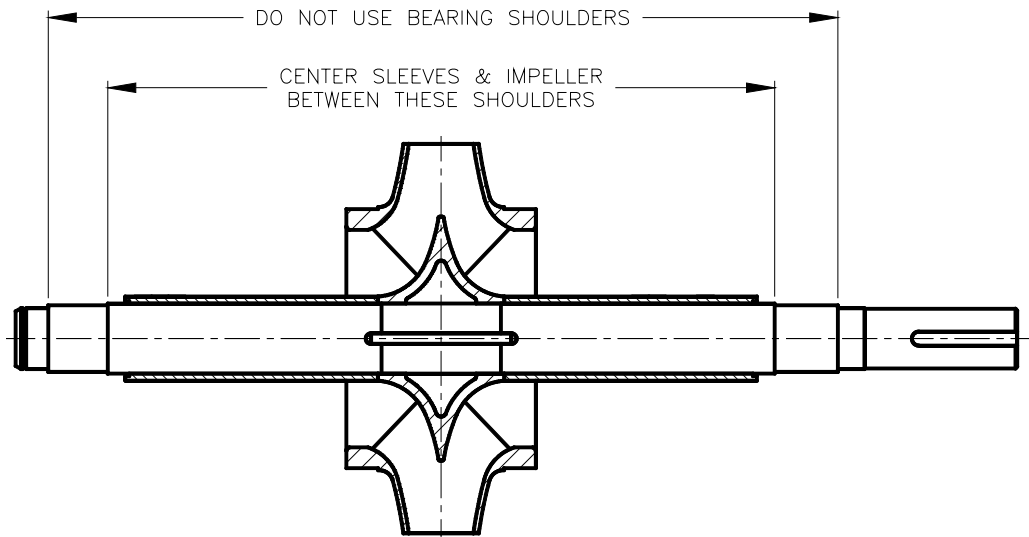

FIGURE 5
- B. If the impeller wear rings (17) require replacement, they are a light press fit and will be secured by one of the following methods. You should proceed as follows:
- C. Install the impeller key (102) in the shaft (4) and slide the impeller (1) over the key, centering it between the shaft shoulders as shown in Figure 5.
Install the impeller key in the shaft and coat the impeller area on the shaft with Loctite 601. Press the impeller onto the shaft, centering it between the shoulders as shown in Figure 5.
**CAUTION: THE LINEAR POSITION OF THE IMPELLER MUST BE OBTAINED AND THE SHAFT SLEEVES MUST BE PROPERLY LOCATED. REFER TO FIGURE 5 ON THE PREVIOUS PAGE OF THIS MANUAL. IF PROVIDED, THE SHAFT SLEEVE MUST BE TIGHTENED WITHIN 10 MINUTES AFTER THE LOCTITE IS APPLIED. TO ACCOMPLISH LINEAR POSITIONING OF THE IMPELLER, LEAVE AN EQUAL AMOUNT OF SHAFT OR SHAFT THREADS EXPOSED ON EACH END OF THE SHAFT AFTER ASSEMBLY IS COMPLETED. ALLOW 4 HOURS FOR THE LOCTITE TO CURE BEFORE COMPLETING THE PUMP ASSEMBLY.**
- F. If your pump is equipped with mechanical seals or solid packing glands, install the seals (456) and mechanical seal glands (B31) or solid packing glands before proceeding. Refer to the seal manufacturer's instructions for installation.
- G. Install the water slingers (126) on each end of the shaft.
- I. Install the outboard (168) and inboard bearings (163).